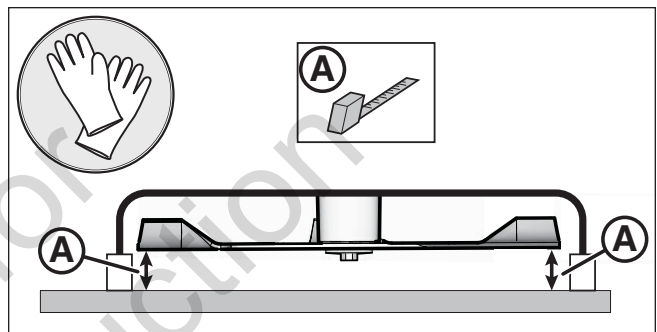

Figure 28. Setting the Blade Height
6. Remove the upper shock mounting hardware and pivot the shock to the position #2 (see Figure 28).